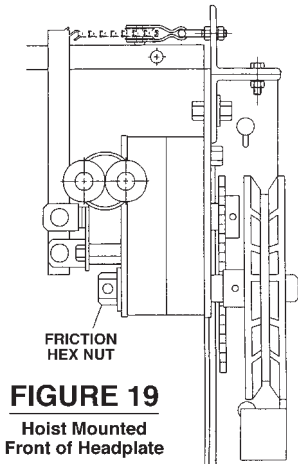

FIGURE 19
- Loosen the set screws on the friction hex nut shown in Figure 19.